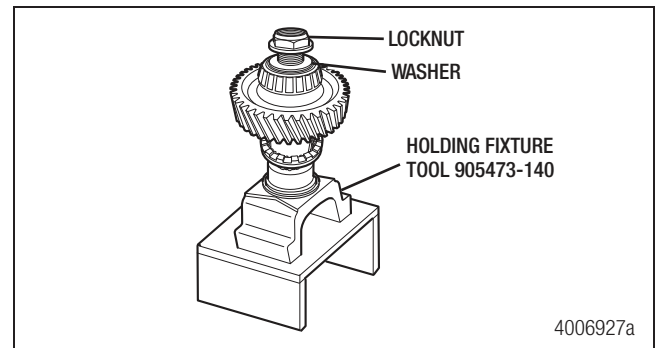

Figure 7.5
11. Install the washer and the locknut onto the shaft. Tighten the locknut to 700-900 lb-ft (949-1220 Nm). Figure 7.5.